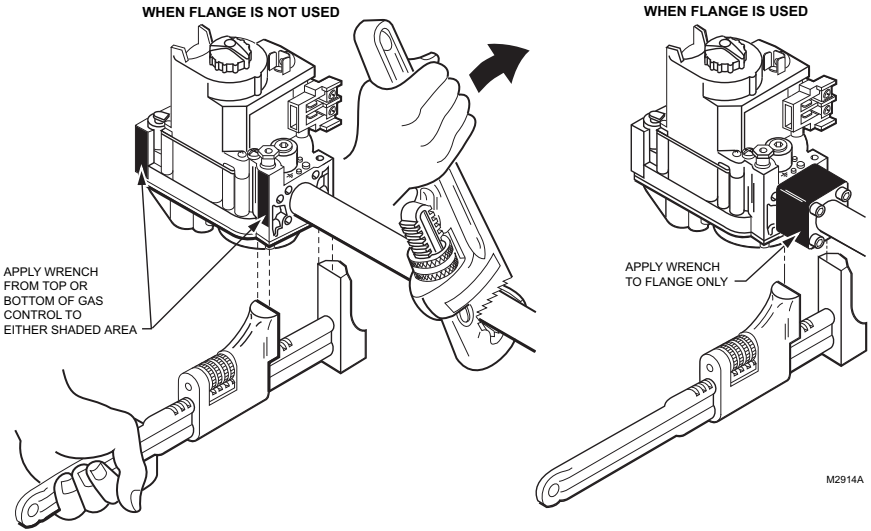

Fig. 5. Proper use of wrench on gas control with and without adapters.
2. Connect control circuit to gas control terminals. See Fig. 5 and 7.